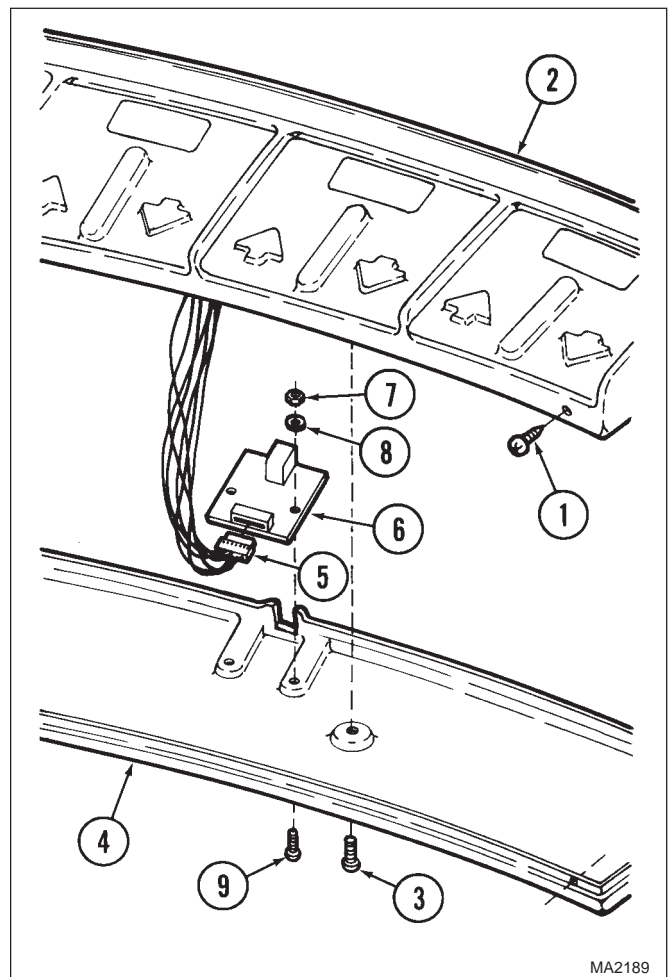

Figure 4-67. Foot Control Assembly Control Interface Board Removal / Installation
- (1) Remove eight screws (1, Figure 4-67) from top housing (2).
- (2) Remove four screws (3) and partially separate top housing (2) from bottom housing (4).
- (3) Disconnect ribbon connector (5) from control interface board (6) and separate top housing (2) from bottom housing (4).
- (4) Remove nut (7), lockwasher (8), screw (9), and control interface board (6) from bottom housing (4).